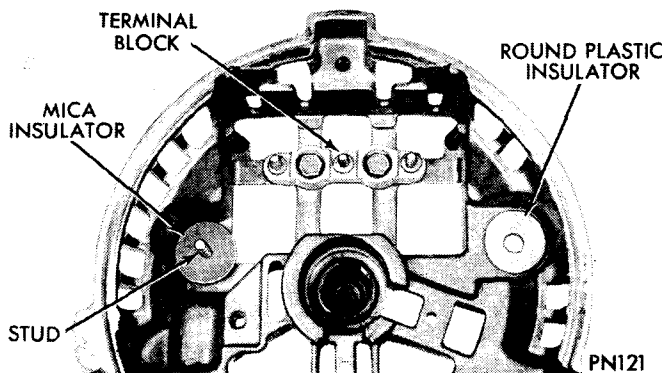

Fig. 32—Installing Insulators
(6) Install mica insulator on heat sink mounting stud in end shield. Install round plastic insulator flat face up in battery stud hole in end shield, (Fig. 32).